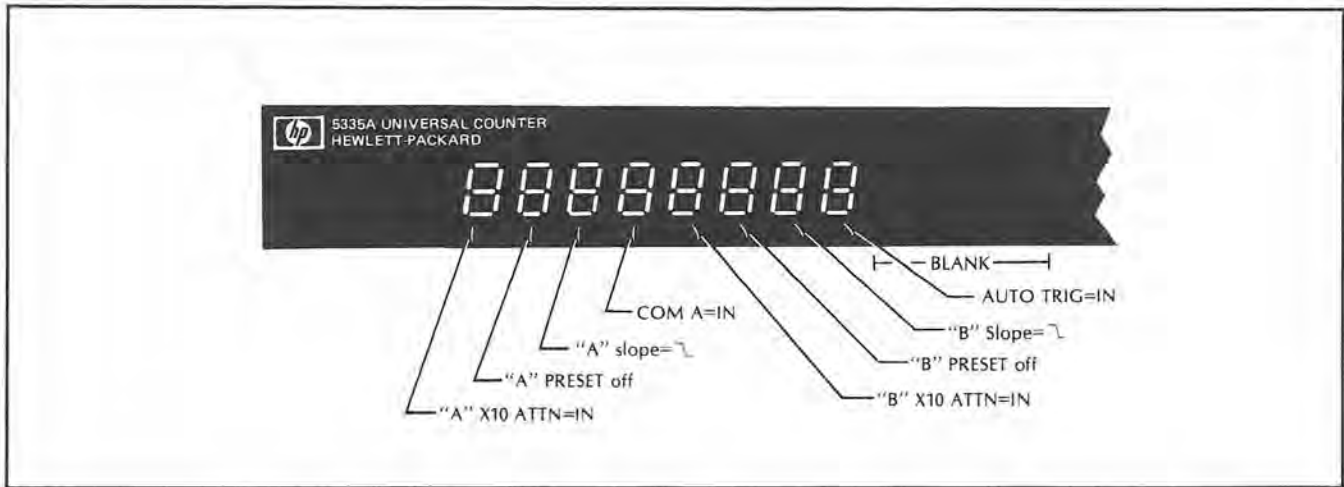

Figure 4-1. Front End Input Switch Test Display
i. Observe when the respective KEY is pressed IN the display shows a figure "8" at the corresponding digit and the display goes blank when the respective KEY is OUT, as shown in Figure 4-1.